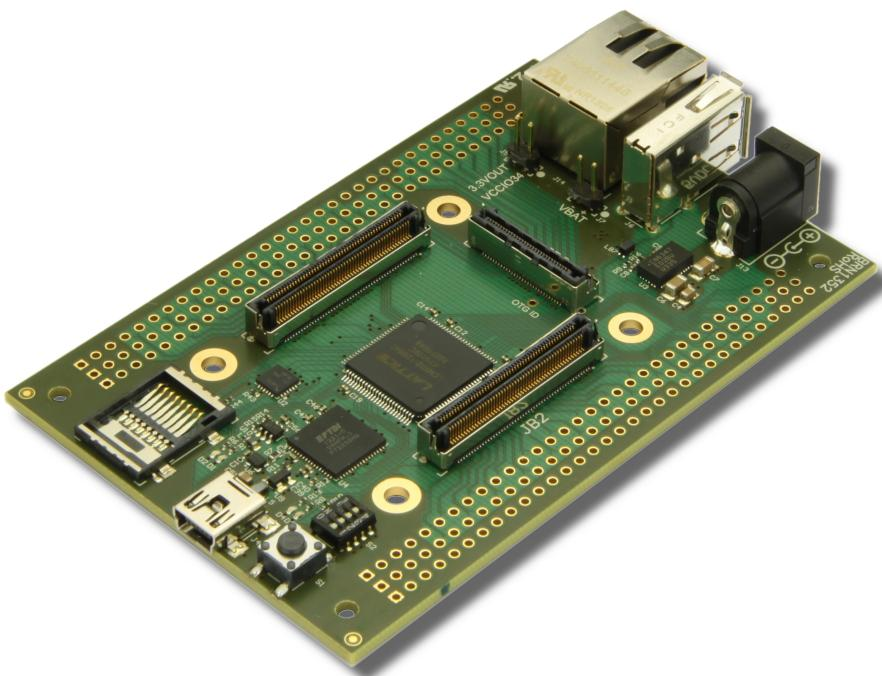

Figure 2: TE0703 (REV 01).
- TE0701-02 (REV2): Jumper J22 labeled "CPLD JTAG EN" (see Figure 2) has to be REMOVED to enable CPLD JTAG mode, because only if the corresponding CPLD input pin JTAGENB is configured "high", the I/O pins TDI, TDO, TMS, and TCK will function as JTAG pins (see Lattice DS135, p.4-1). **Note:** Setting J22 CLOSED will tie JTAGENB to ground, i.e., TDI, TDO, TMS, and TCK will function as general purpose I/O pins!